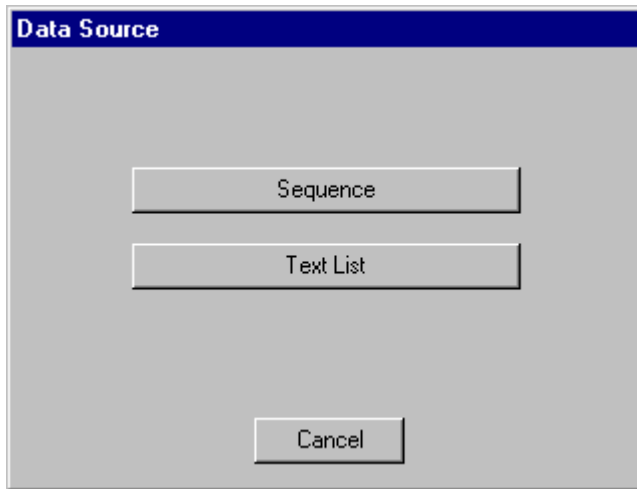

Figure 7-6. The Data Source screen.
1. Choose **Text List** on the **Data Source** screen (Figure 7-6).
1. Choose **Text List** on the **Data Source** screen (Figure 7-6 on page 7-11).